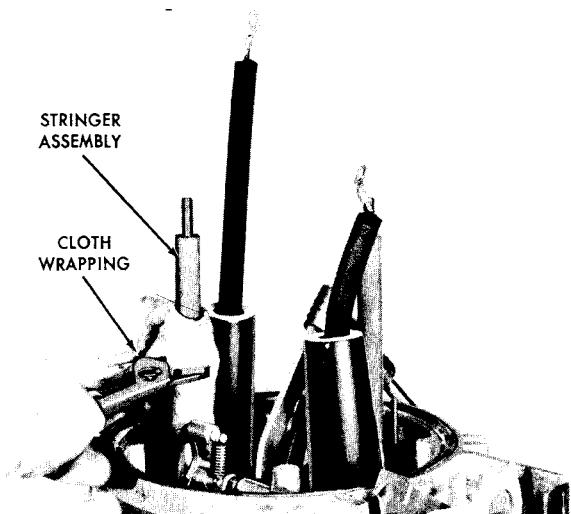

Figure 23. Insulating support stringers
2. Use a cloth wrapping as shown in Figure 23 to protect stringers from being marred, and loosen them with pliers.